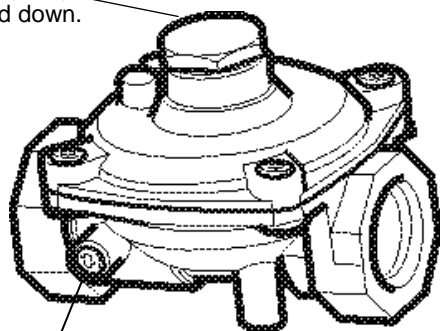

Fig 2
4. Unclip the nylon insert from the nut assembly by rotating the insert 1/4 turn and pulling it free. (Figure 2)